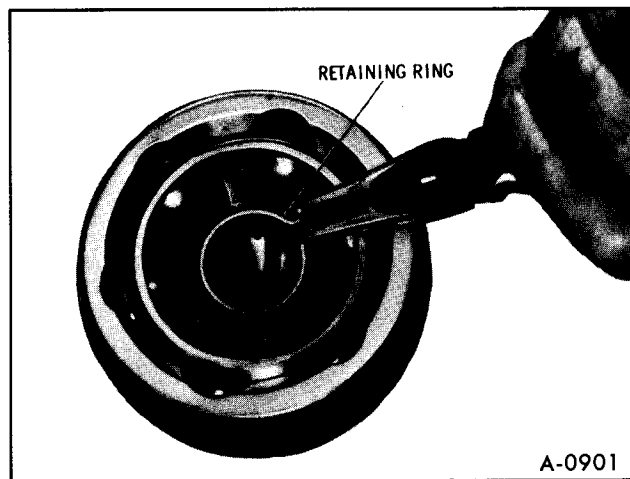

Figure 20—Removing Retaining Ring
6. Remove retaining ring (figure 20).